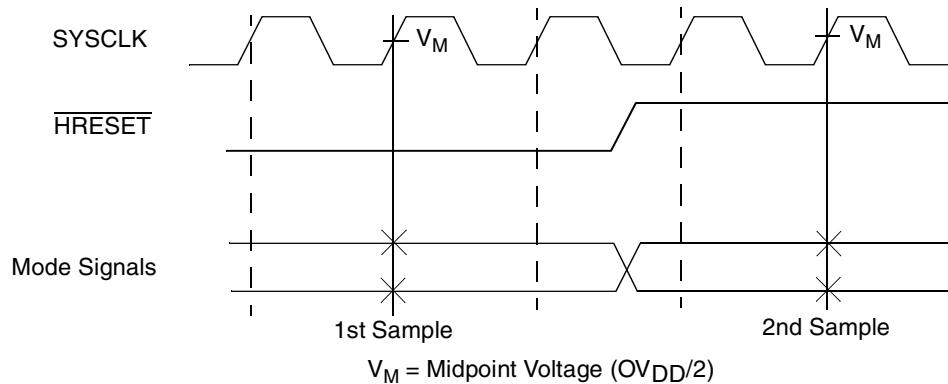

Figure 5. Mode Input Sample Timing Diagram
Table 9 provides the processor bus AC timing specifications for the MPC7447A as defined in Figure 4 and Figure 5.
8. BMODE[0:1] and BVSEL are mode select inputs and are sampled before and after $\overline{\text{HRESET}}$ negation. These parameters represent the input setup and hold times for each sample. These values are guaranteed by design and not tested. These inputs must remain stable after the second sample. See Figure 5 for sample timing.
Figure 5 provides the mode select input timing diagram for the MPC7447A. The mode select inputs are sampled twice, once before and once after $\overline{\text{HRESET}}$ negation.